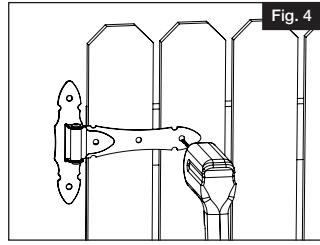

Fig. 4
- c. Drill 7/32" pilot hole in gate (Fig. 4).